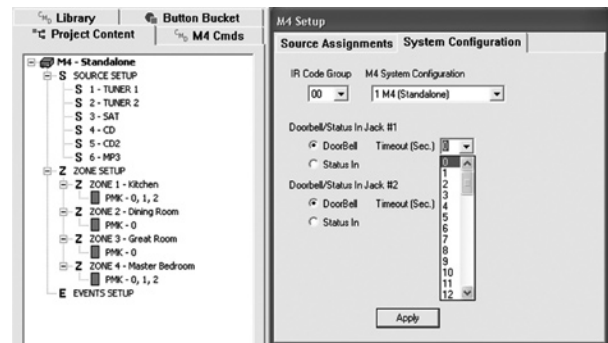

Figure 33 Selecting & Adjusting Time 0 for Momentary Page Action
- Just to the right, select 0 (zero Sec.) in the **Timeout (Sec.)** list. Click **Apply**. Refer to Figure 33.